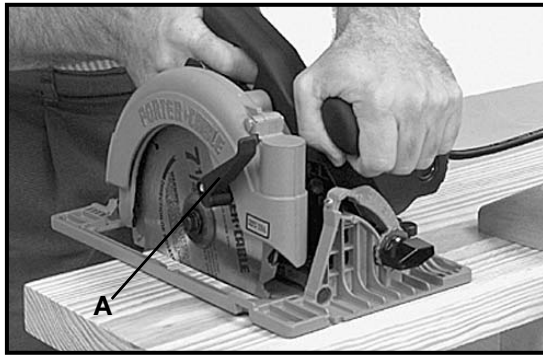

Fig. 14
WARNING: It is important to support the work properly and to hold the saw firmly to prevent loss of control which could cause personal injury. Fig. 14 illustrates proper hand support of the saw.
Clamp work on a rigid support such as a bench or saw horses. See Fig. 14. Mark the line of cut on the work. Be sure cut-off line is beyond end of support to the right only enough to allow proper operation of the telescoping guard. Place front edge of saw squarely on work before starting motor. Sight the
CAUTION: Keep the cord away from cutting area, so it does not get hung up in the work being cut. See Fig. 14.
Cutting directly across the grain of a piece of lumber is called crosscutting. Fig. 14 illustrates a crosscut operation. Position the work so that the cut will be on the right, as shown.
CAUTION: Use the lever (A) Fig. 14, provided on the telescoping guard when you have to retract the telescoping guard manually.